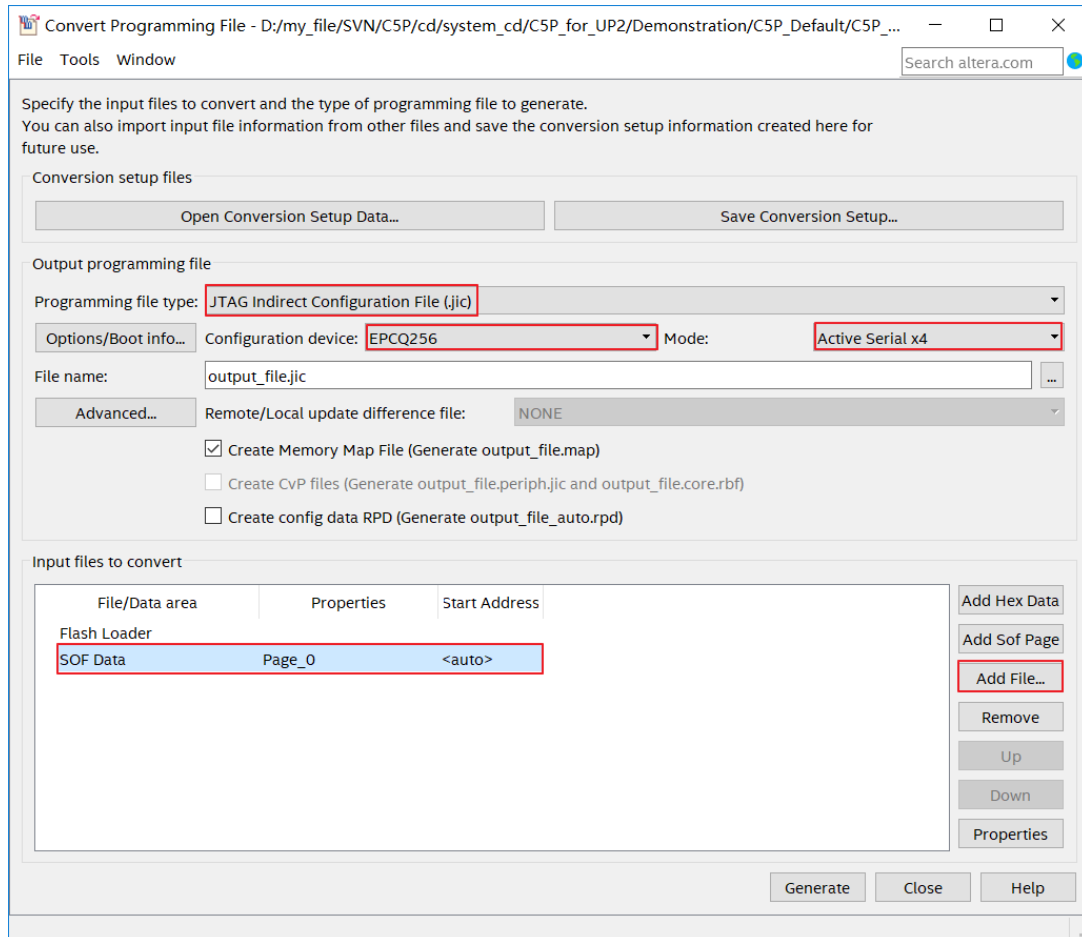

Figure 6-2 Dialog of “Convert Programming File”
6. Click on the **SOF data** in the section of **Input files to convert**, as shown in **Figure 6-2**.